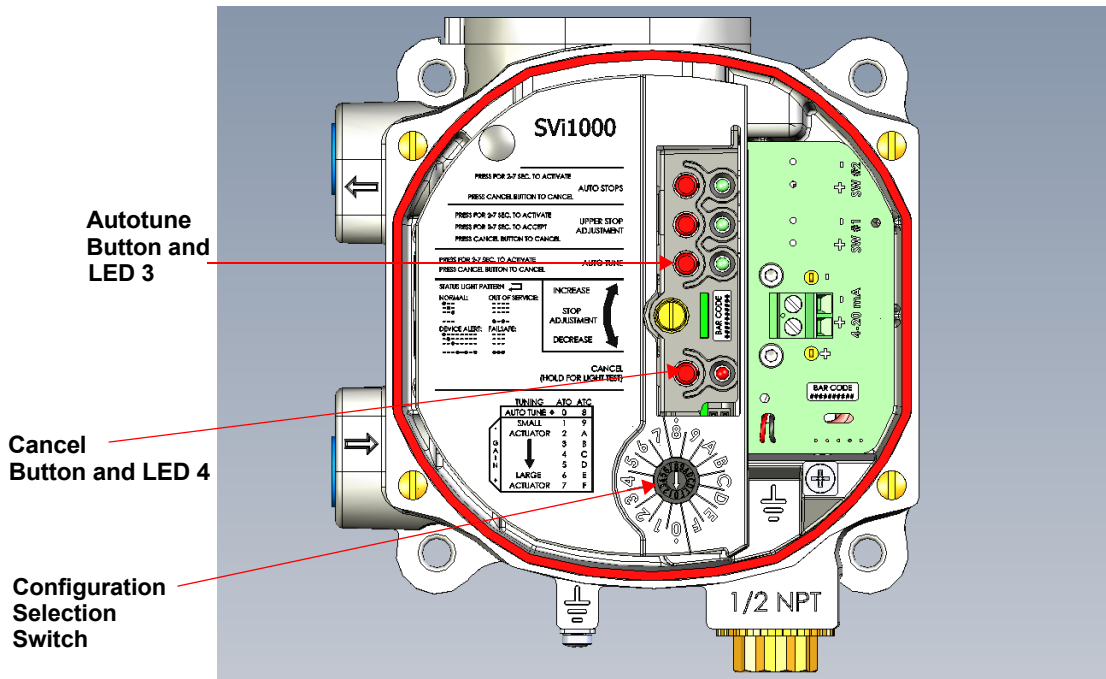

Figure 21 Configuration Selection Switch
1. Set the *Configuration Selector Switch* to the auto tuning parameter (Figure 21):